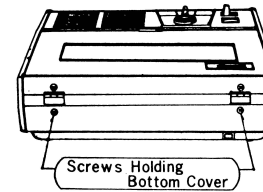

Fig. 2
1. Unscrew and remove two (2) screws holding Bottom Cover and gently disengage Cover from Recorder Body. (Fig. 2)